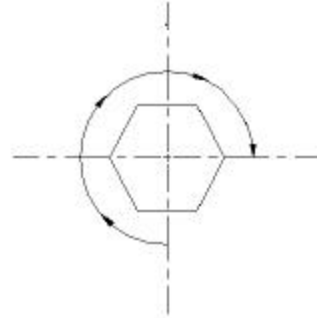

Figure 4.4-4 Tightening Nut 3/4 Turn
B. For tubing OD < 1/4 inch: Tighten nut 3/4 turn (as shown in Figure 4.4-4 below right) to swage ferrule. (Nut mark should be at 3 o'clock position).
- For tubing OD $<$ 1/4 inch: 3 o'clock position (refer to Figure 4.4-4)